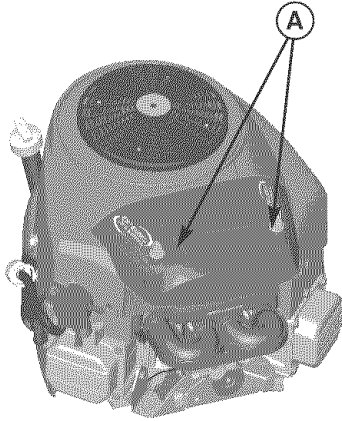

Figure 32. Air Filter Cover
1. Loosen the air filter cover screws (A, Figure 32) and remove the air filter cover.
6. Reinstall the air filter cover and tighten the screws (A, Figure 32).